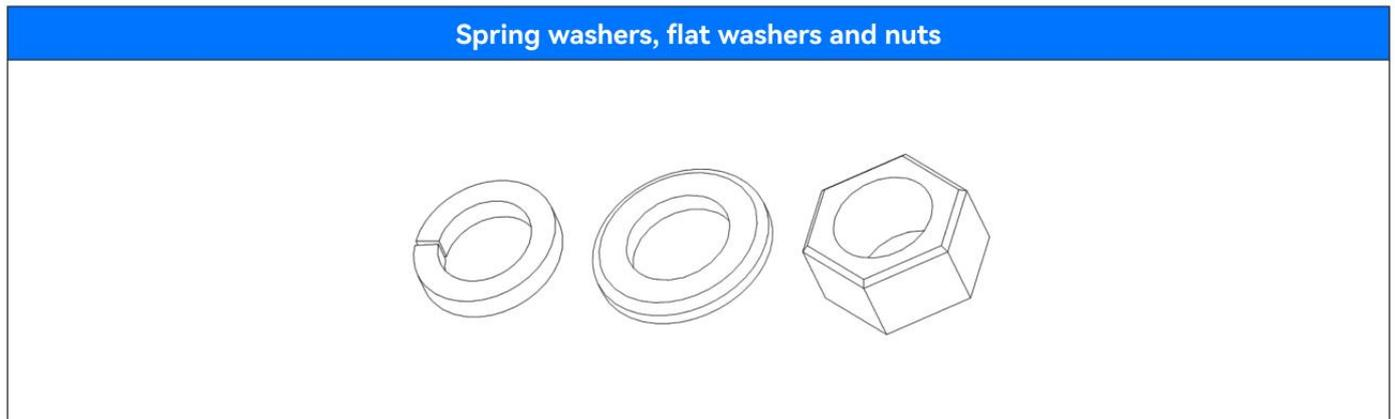

Figure 3.1
1. Remove the four sets of installation accessories (nuts, spring washers, flat washers) as shown in Figure 3.1. Do not remove the installation studs. Set aside 4 sets of accessories, remember not to lose.